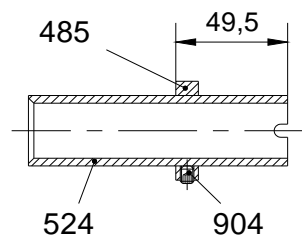

Fig. 21
- 5) Introduce on the shaft sleeve VDMA 524 the seal locating ring VDMA 485 and position it at a distance of 49,5 mm from the end of the shaft sleeve (side with the key slot) to the face of the ring on which the mechanical seal will rest (see fig. 21).